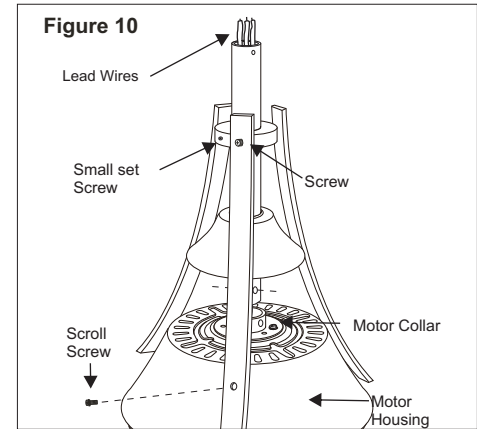

Figure 10
6. Slip coupling cover, scroll assembly onto downrod. Secure scroll assembly to the motor housing by tightening three screws provided in loose bag into the motor housing. Tighten three screws removed in step 5. Secure the scroll assembly to the downrod by tightening the small set screw on the scroll bracket. (Figure 10)